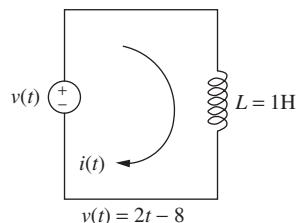

Figure P2.4 Current flowing through an inductor.
- 2-4.** The current flowing through the inductor shown in Fig. P2.4 is given by the quadratic equation $i(t) = t^2 - 8t$. Find t when